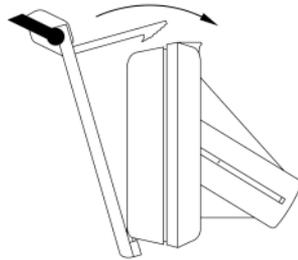

FIGURE 6
2. Swing Squeegee/Large Utility Brush backwards until hook latch on back snaps over tab on top of Utility Attachment Head (FIGURE 6).